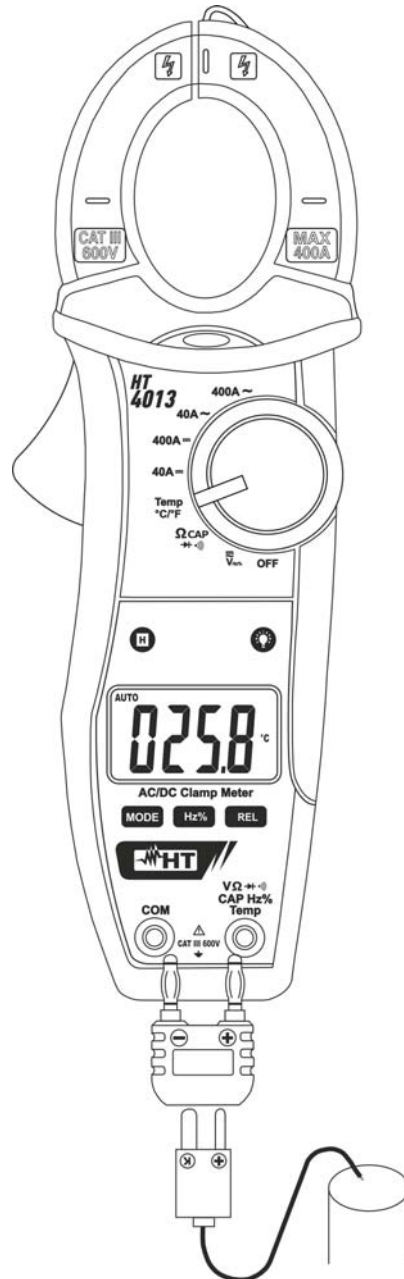

Fig. 9: Use of the clamp for temperature measurement with type K probe
3. Insert the K wire probe provided into input terminal **VΩ→+·)CAPHz%Temp** and **COM** by means of the relevant adapter, respecting the polarity indicated in Fig. 9. The display shows the value of temperature.